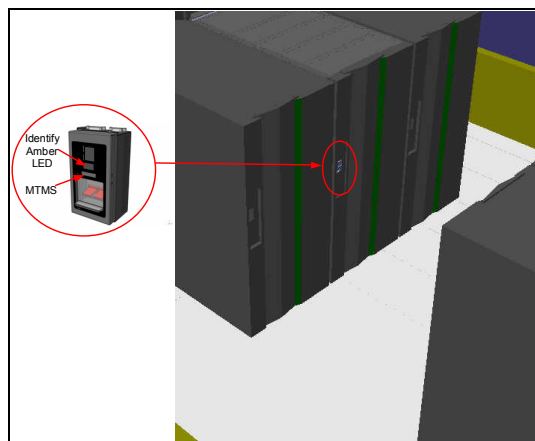

Figure 5 UEPO Identify LED location
**STEP 7** Locate the frame. The UEPO Identify Amber Led (see Figure 5) should be flashing. If the LEDs are not flashing, verify the FRU via MTMS (machine type model serial number). The rack level MTMS is located on the face of the UEPO (see Figure 5). Open the front door of the frame.